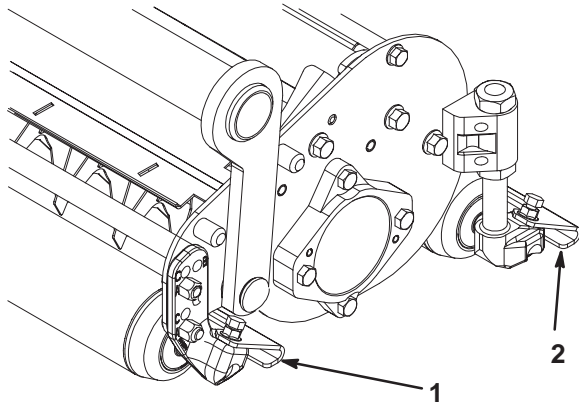

Figure 4
1. Loosen flange nut securing roller scrapers (Fig. 4).